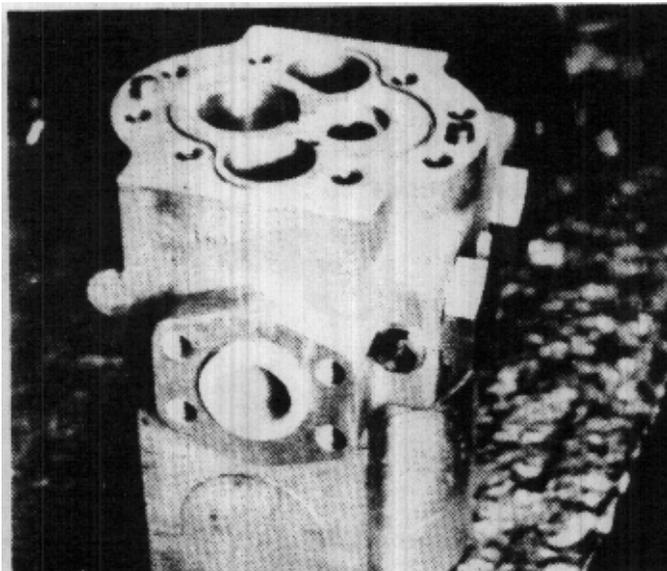

FIGURE 86
16. Remove nut (21) and washer (22).
17. Remove cover plate (23), o-ring (20) (some SPM20 only), and stud bolts (43)
18. Now remove the assembly from the vise and set it on a clean bench with the valve body (3) up. (Fig. 86)